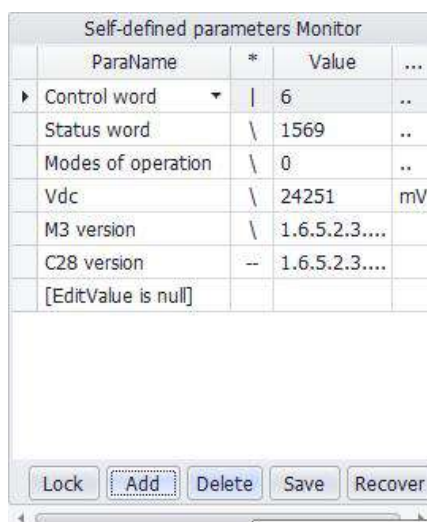

Figure 2-6 Adding monitoring parameters
②Click on "**Add**" to add a parameter to the list in the parameter monitoring window that is empty by default, as shown in Figure 2-6.